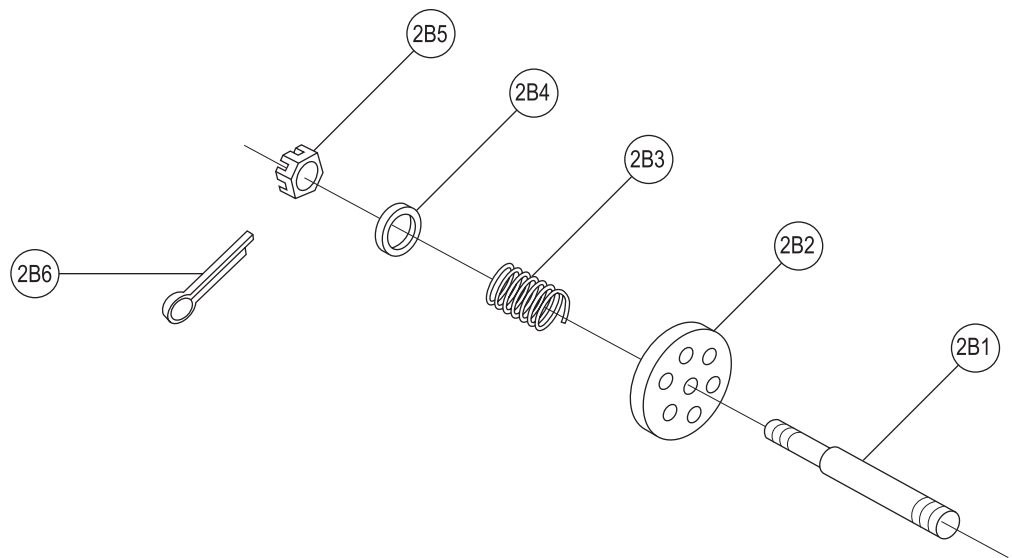

Figure 4.16
- 1. Disassemble/Build the shaft subassembly in the order shown by the Shaft Subassembly Diagram (Figure 4.16).